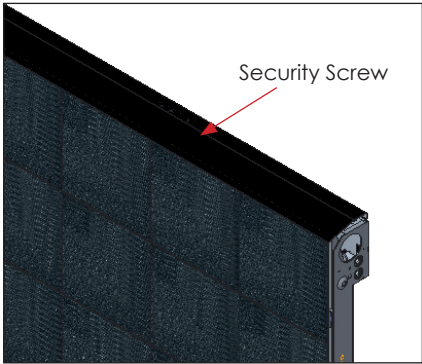

Figure 10: Closed Beverage Shroud
- 1. Release the beverage shroud latches by rotating them counterclockwise with the 5/16" hex security bit (Daktronics part number TH-1170) supplied in the toolkit to release the latches. Refer to **Figure 10**.